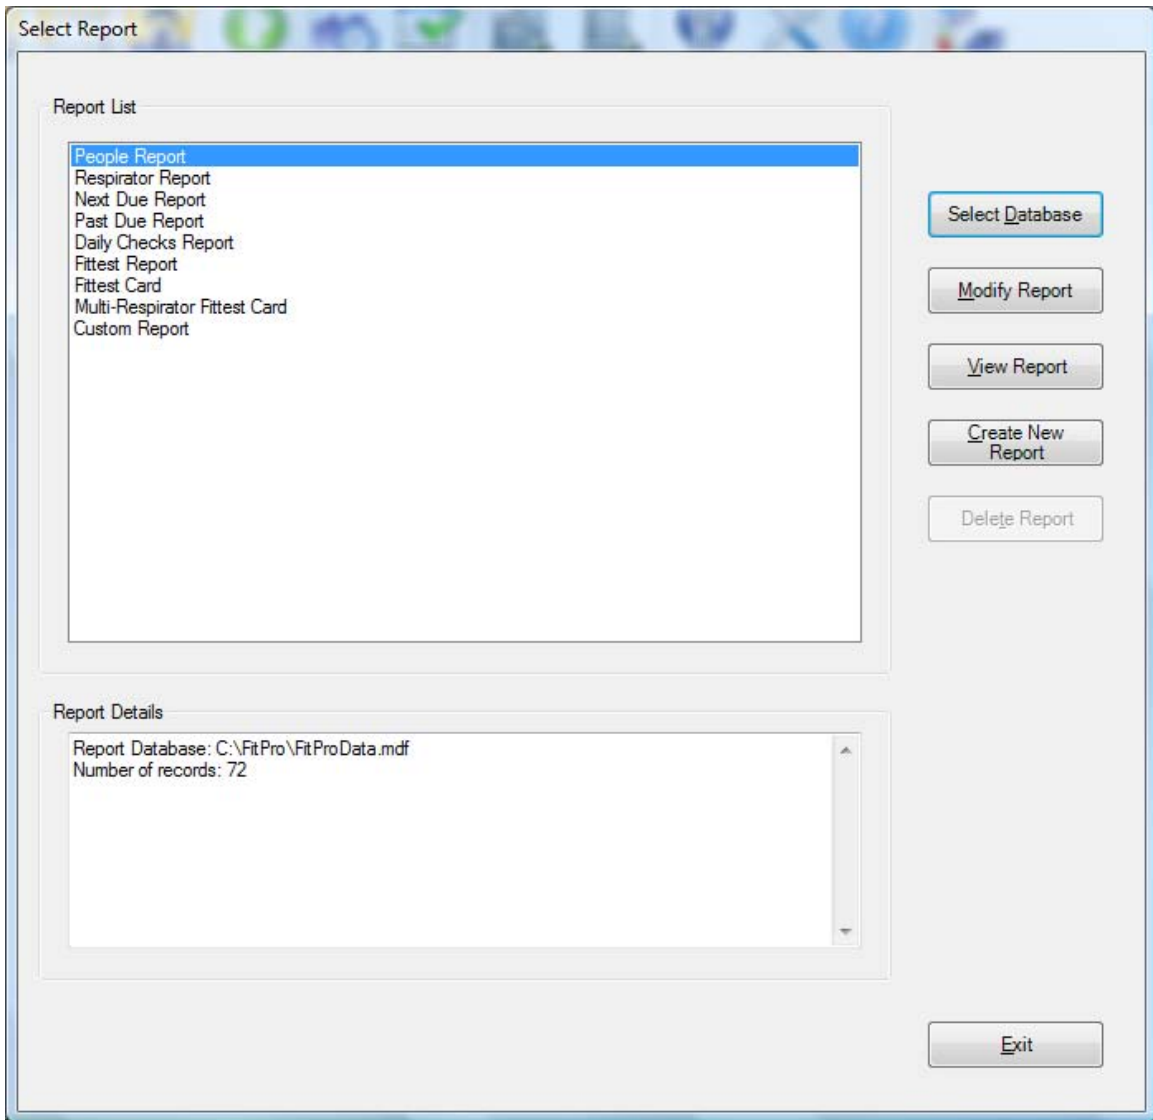

Figure 35. Select Report Dialog
1. Select **R**eport | **S**elect Report or click . The Report Selection dialog (Figure 35) appears. The name of the database file used for the reports is shown at the top of the dialog box and in the **Report Details** window. By default, this is the active database. Click **Select Database** to choose another database. The reports that are available are shown in the **Report List** window. Click on a report name in this list and the number of records for that report is shown in the **Report Details** window.